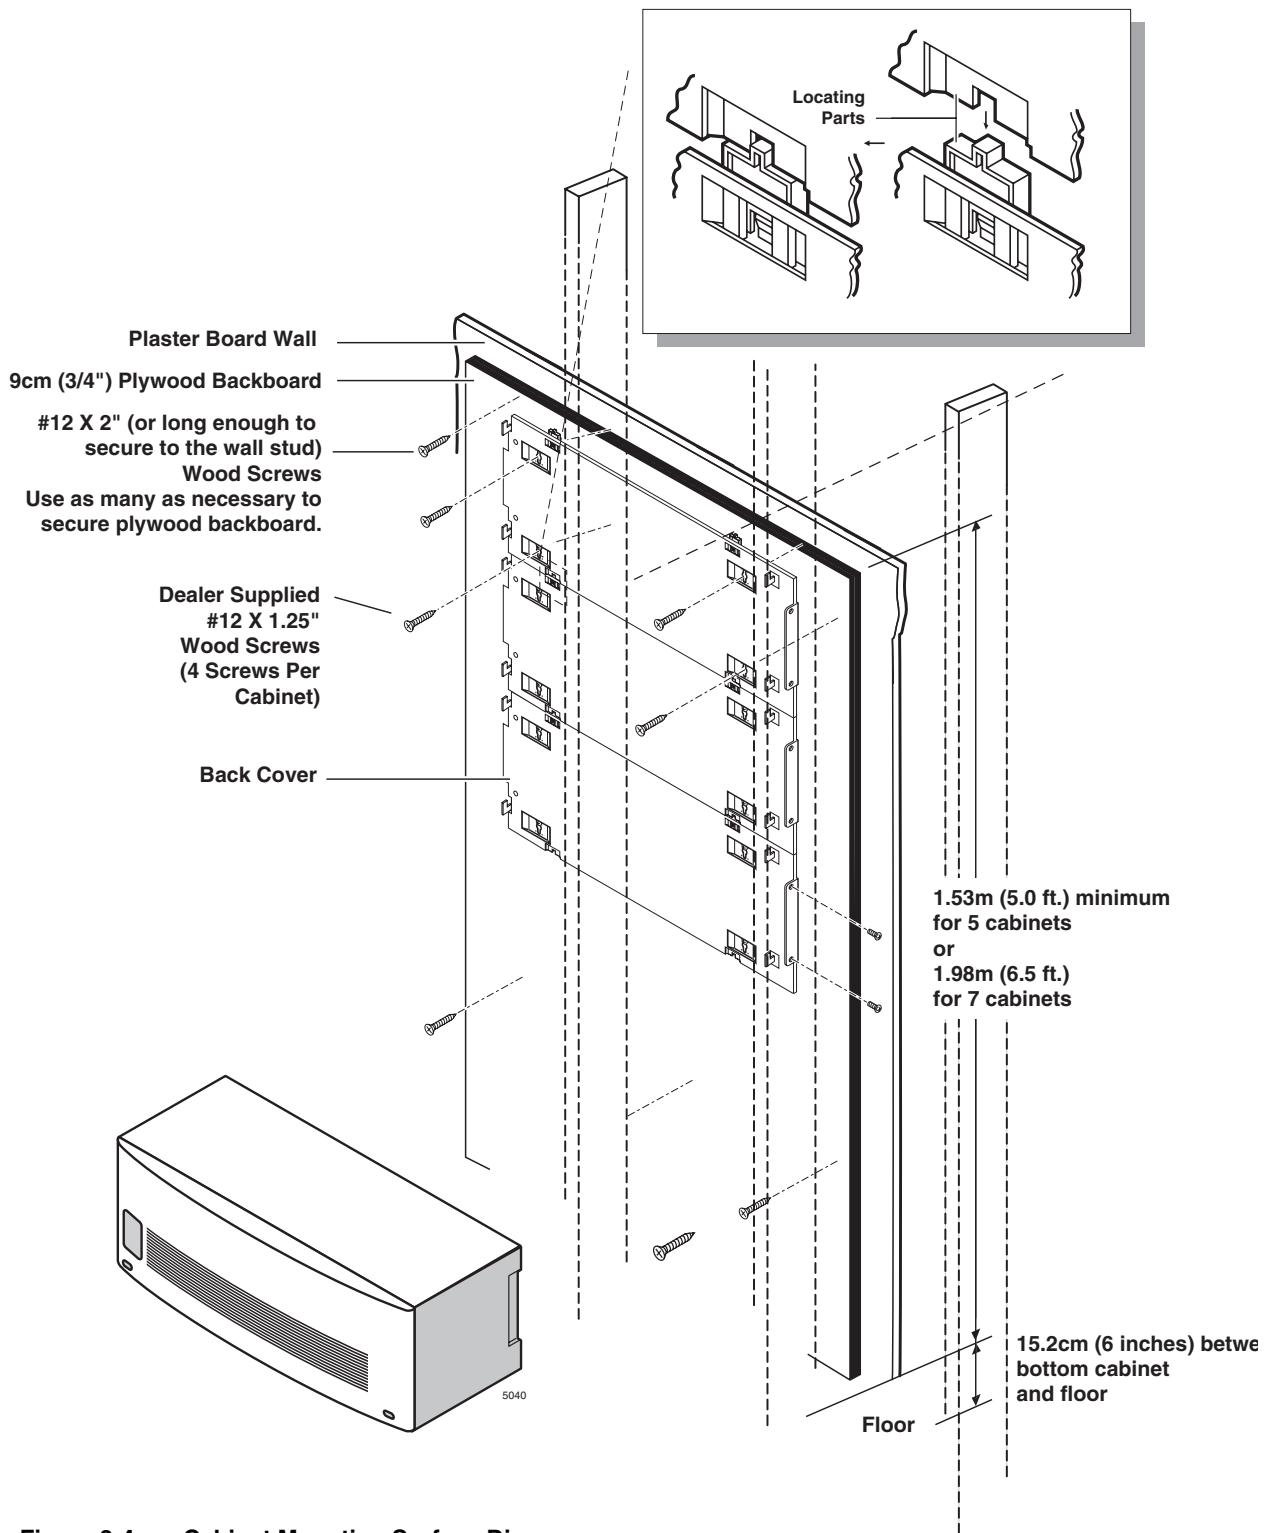

Figure 3-4 Cabinet Mounting Surface Diagram
Note Toshiba recommends installing cabinets (see Figures 3-4~3-10) from the top down, Base Cabinet on top, first Expansion Cabinet below it, second cabinet below that, etc.
Follow these instructions to wall mount the Base Cabinet or the first Remote Expansion Cabinet. A wooden backboard between the cabinet and the wall is necessary (see Figure 3-4).
2. Hold an Expansion Cabinet back cover against the wall so that its top locating parts align with the bottom locating parts of the Base Cabinet back cover (see Figure 3-4 on Page 3-12). To secure the Expansion Cabinet back cover to the back board, repeat Steps 5~11 from “Wall Mounting the Base \(Top\) Cabinet” on Page 3-10.